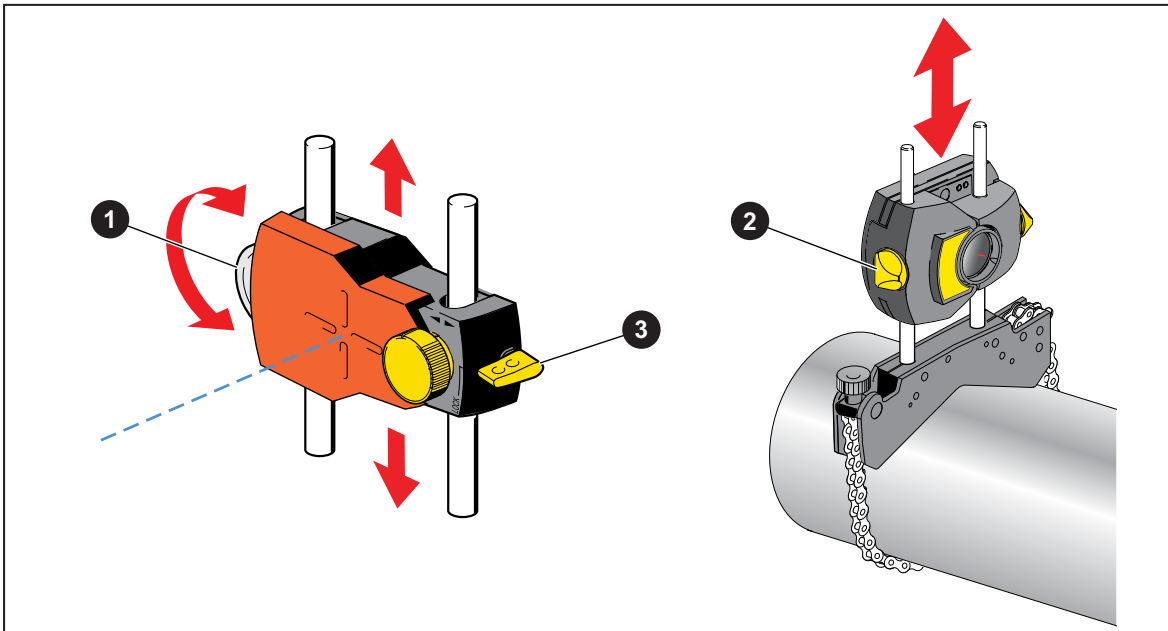

Figure 7-9. Horizontal and vertical adjustment of the laser beam
- If the reflected beam does not strike the detector surface, the Product's right LED turns red while the Sensor Status LED (left) blinks red. (See Table 4-2. Monitoring sensor LEDs). The message 'Laser OFF' appears on the display screen. Adjust the reflected beam using the metal thumbwheel and the yellow adjustment knob on the prism as shown on Figure 7-9. Horizontal and vertical adjustment of the laser beam.